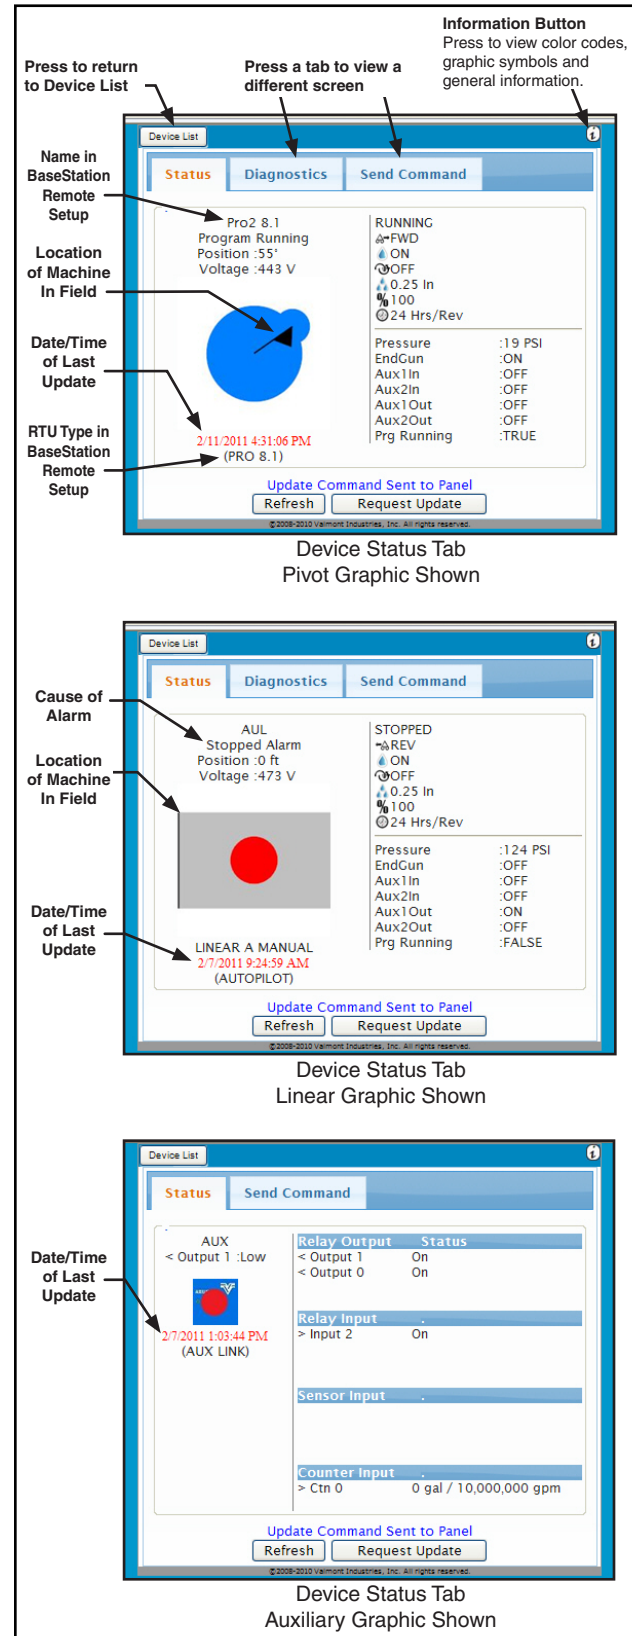

Figure 84-1
Shows a summary of the last reported status for the selected device. See figure 84-1.
- Press a tab to view a different screen. See figure 84-1.
1. Press the Request Update button. See figure 84-1.
2. Return to the screen a few minutes later and press the Refresh button to view the updated Device Summary. See figure 84-1.